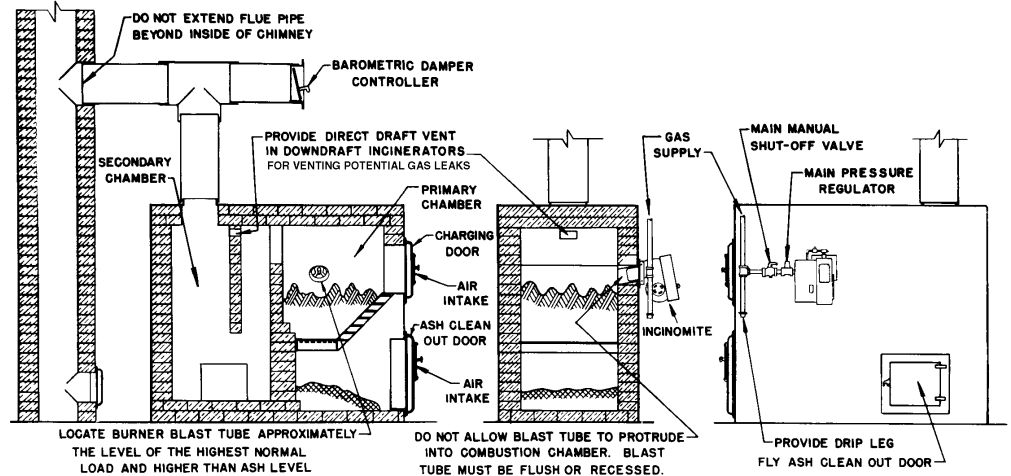

Figure 1: Typical Installation
⚠ CAUTION: If the incinerator is of the down draft design, make sure that a direct draft vent opening of approximately 10 square inches has been put through the top of the drop section(s) to provide for the venting of any gas leakage. See Figure 1.
□ A suitable Main Gas Pressure Regulator should be installed as shown in Figures 1 or 2. Choose a regulator(s) to adjust the available gas pressure to the pressure shown in SPECIFICATIONS, page 2.